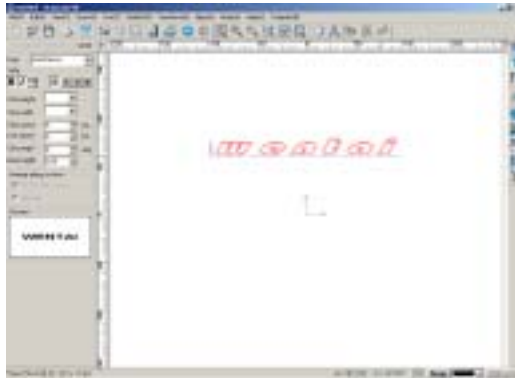

Fig. 7-7
2. Click on . Then the text will be inclined. (Fig. 7-7)